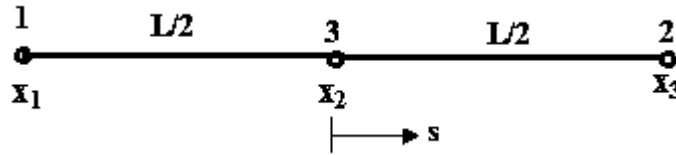

Figure 6b
- b) For the three-noded iso-parametric bar element shown in Figure 6b, show that the Jacobean determinate is $|J| = L/2$. Also determine the shape functions $N1 - N3$ and the strain-displacement matrix $[B]$. Assume the displacement field as $u = a1 + a2s + a3s^2$.